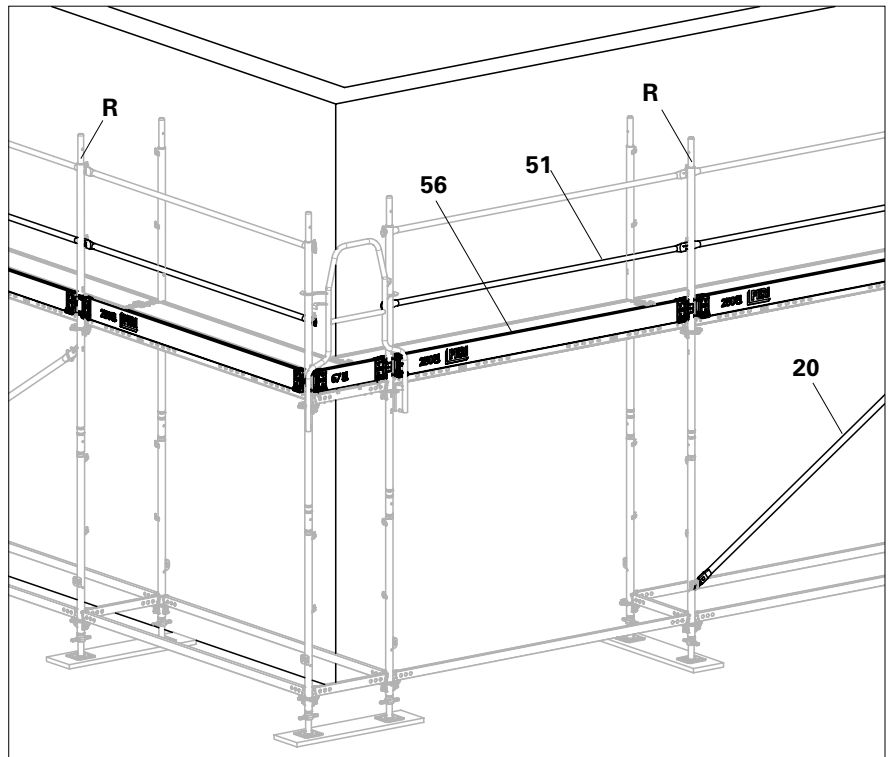

Fig. B6.06
- The external corner is now complete. (Fig. B6.06)